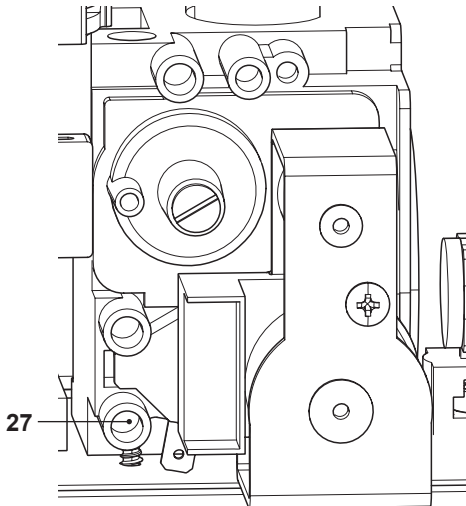

Fig. 7.8
- With the boiler switched on at full rate (maximum output power), check the supply pressure by using the 27 point in Fig. 7.8 and compare the value with that reported on the Gas supply pressure table (minimum inlet pressure) in section "Technical data BASICA COND 24C (M275V.2024 SM)" on pag. 24, "Technical data BASICA COND 28C (M275V.2428 SM)" on pag. 28 and "Technical data BASICA COND 32C (M275V.2832 SM)" on pag. 32.
- Ensure the test nipple 27 in Fig. 7.8 is firmly closed.